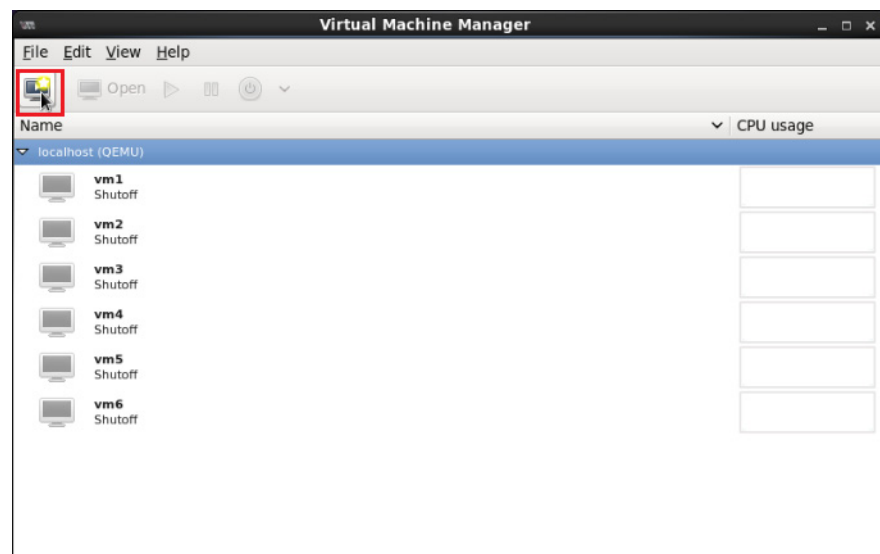

Figure 17: Create New Virtual Machine
- Click the **Create a new virtual machine** button as shown in Figure 17.